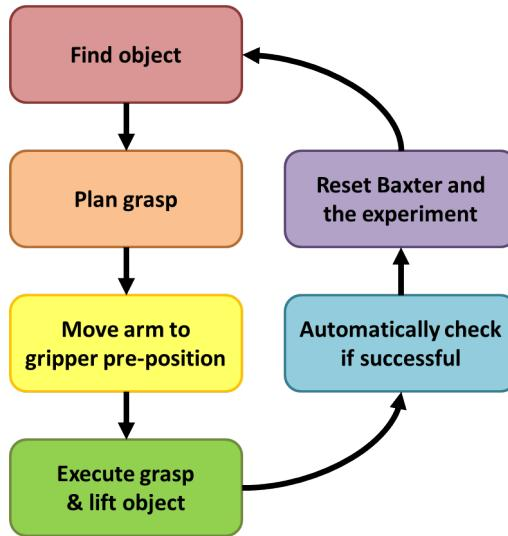

Figure 1: Workflow for Lab 2.
The purpose of this lab is to combine many of the topics presented in this course to plan and execute a grasp with Baxter. This will consist of detecting the object to grasp, planning a stable grasp, moving into position, closing the grippers, and lifting. The block diagram in Figure 1 shows the workflow you'll be implementing.
- Methods for implementing each of the blocks in Figure 1